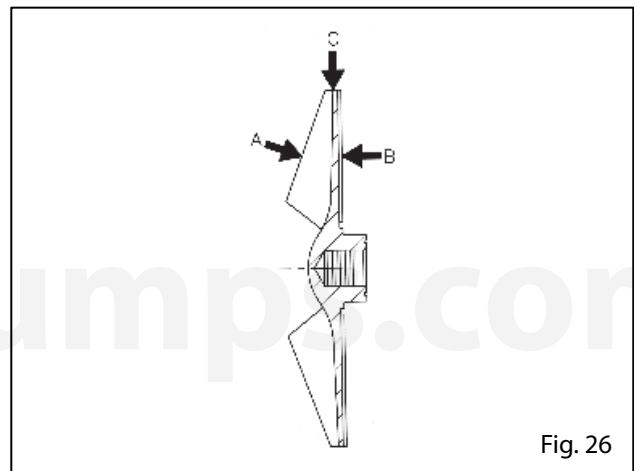

Fig. 26
Y You should inspect the impeller vanes checking if they are damaged, must be replaced if the slots are greater than 1/16" deep or if they have a uniform wear over 1/32" (Point A in Figure 26).
Y Inspect the rear vanes, if they have more wear than 1/32" (Point B in Figure 26), replace the impeller.
Y Inspect the leading and trailing edges of the blades, if these presents corrosion or wear (Point C in Figure 26), substitute for a new impeller.
• You should inspect the impeller vanes, checking if they are damaged, should be replaced if the grooves are larger than 1/16" in depth or having a uniform wear greater than 1/32" (Point A in Figure 26).
• Inspect the rear blades, if they have wear greater than 1/32" (Point B in Figure 26), replace the impeller.
• Inspect the leading and trailing edges of the blades, if they present corrosion wear or pitting (point C in Figure 26), replace it with a new impeller.